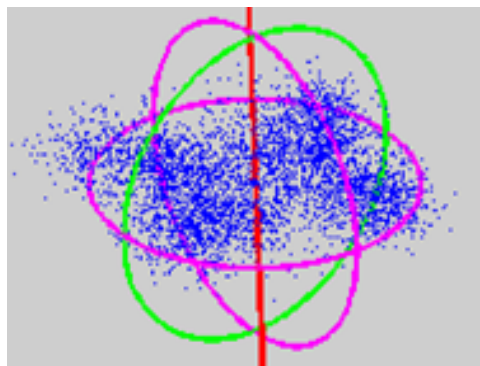

Figure 5.
- Signal analysis in Stokes-Space to verify polarization behavior of transmitter output. Figure 5 shows an example of an DP-QPSK signal distribution in the stokes space.